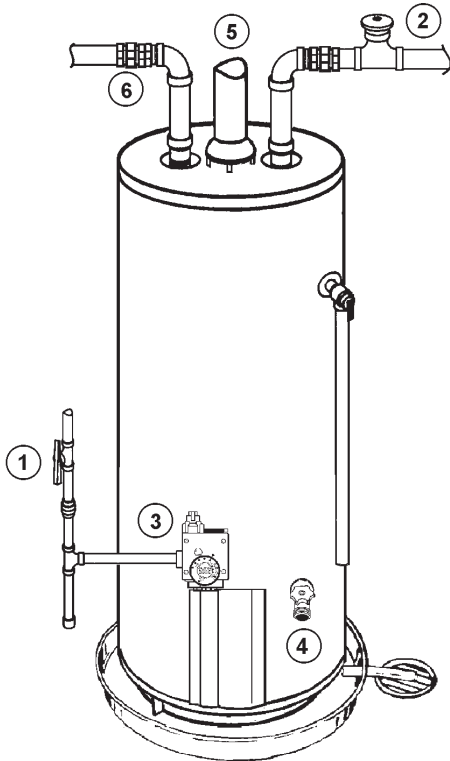

FIGURE 1.
- Carefully plan the place where you are going to put the water heater. Correct combustion, vent action, and vent pipe installation are very important in preventing death from possible carbon monoxide poisoning and fires, see figure 1 and 2.
If the main gas line shut-off valve serving all gas appliances is used, also shut "OFF" the gas at each appliance. Leave all gas appliances shut "OFF" until the water heater installation is completed, see Figures 1 and 2.
2. Turn "OFF" the water supply to the water heater at the water shut-off valve or water meter. Some installations require that the water be turned off to the entire house, see Figures 1 and 3.
4. Attach a hose to the water heater drain valve and put the other end in a floor drain or outdoors. Open the water heater drain valve. Open a nearby hot water faucet which will relieve pressure in the water heater and speed draining. The water passing out of the drain valve may be extremely hot. To avoid being scalded, make sure all connections are tight and that the water flow is directed away from any person, see Figures 1 and 4.